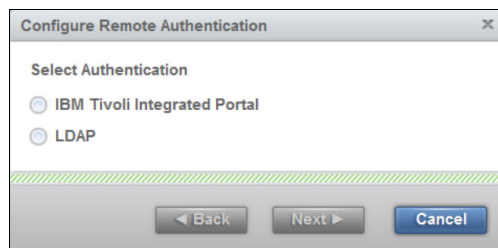

Figure 9-41 Remote Authentication wizard (step 1 of 4)
- The Configure Remote Authentication window opens (Figure 9-41). Select **LDAP**.